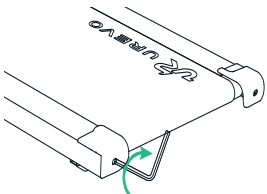

Figure 2
- If the walk belt has shifted to right, use the hex tool to turn the right idler roller screw clockwise **1/4** of turn (refer to figure 2).